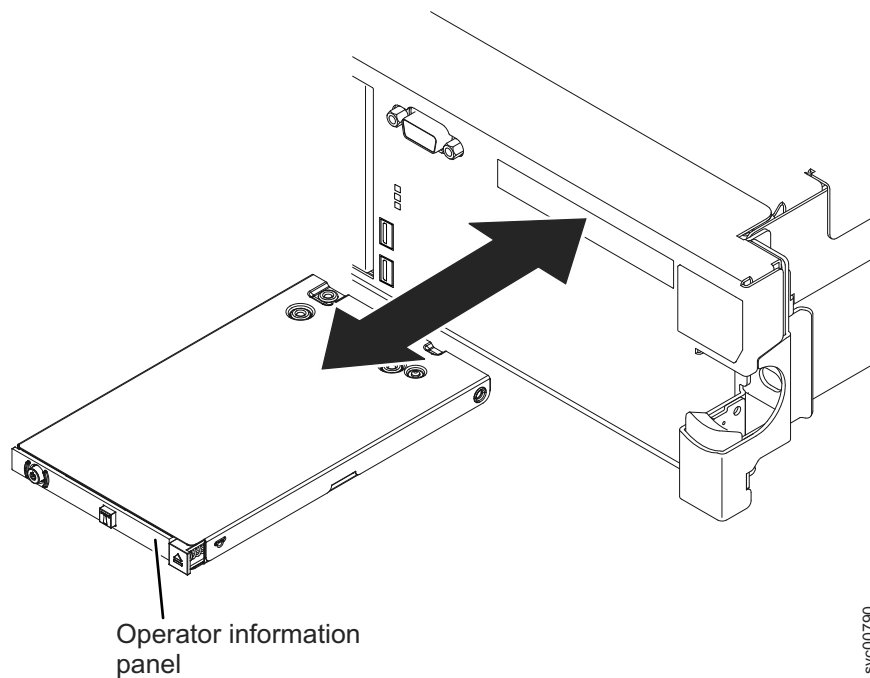

Figure 257. Replacing the 2145-DH8 operator-information panel
2. From the front of the node, slide the operator-information panel into the node until it clicks into place, as shown in Figure 257 on page 309.